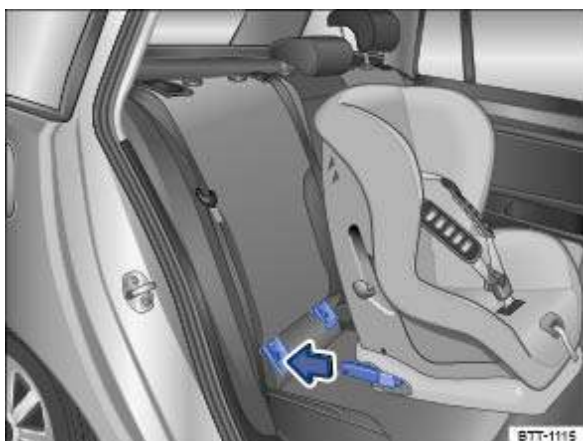

Fig. 69 Fitting a typical ISOFIX child seat with the attachment arms
- Push the attachment arms on the child seat into the ISOFIX anchor points → Fig. 69 as shown by the arrows. The child seat must click and audibly securely into place.
- Push the attachment arms on the child seat into the ISOFIX anchor points → *Fig. 69* as shown by the arrows. The child seat must click and audibly securely into place.